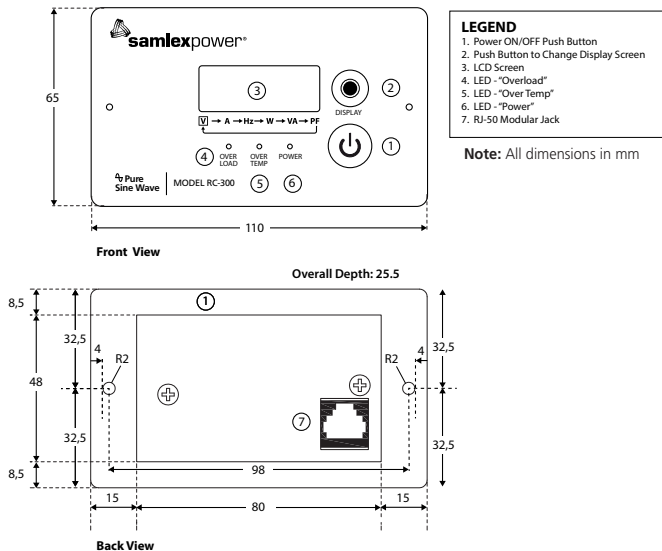

Fig. 1 Remote Control RC-300 - Layout and Dimensional Drawing
3.1 Fig. 1 (page 4) shows the layout of controls and indications and dimensional drawing.
- 4.1 Please refer to Fig. 1. The Remote Control can be flush mounted on a wall or a panel by making a suitable cut-out to accommodate the projection in the back.
- 5.1 Switch ON the inverter using the local ON/OFF Switch on the inverter or using external ON/OFF control provided on the inverter. Once the inverter turns ON, the operational status of the inverter will be displayed through the LCD screen (3, Fig 1) and LEDs (4, 5, 6; Fig 1).
- 5.3 The output of the inverter can be switched ON/OFF using the ON/OFF Push Button (1, Fig 1).